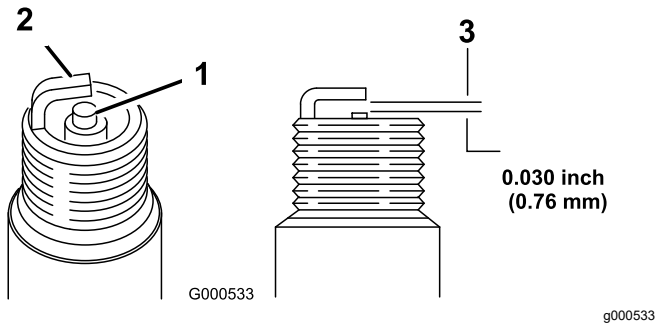

Figure 24
- Set the gap on the plug to 0.76 mm (0.030 inch); refer to Figure 24.